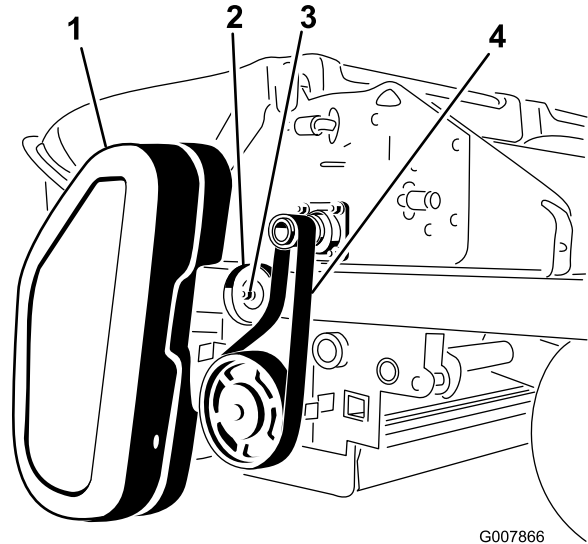

Figure 59
1. Remove the belt cover (Figure 59).
2. Loosen the nut on the idler pulley (Figure 59).
3. Slide the belt off of the chopper shaft and brush pulley (Figure 59).